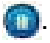

Figure 48. Inspect an Endface (FI-3000 shown)
- 7 Insert the probe into a connector or patch cord adapter. See Figure 48.